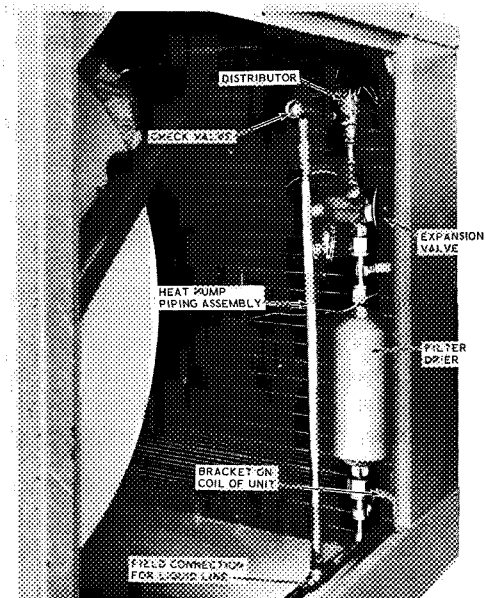

Fig. 5 — 40BA009 with Heat Pump Conversion Piping Installed
- Figure 5 shows the heat pump conversion piping filter-drier and expansion valve installed on the 40BA009 unit. To install, cut off the end of the side outlet tube of the distributor, being careful about leaving chips or burrs inside the tube. Position the check valve and tube assembly. Slide the check valve over the side outlet tube and “sweat” the joint. Use the expansion valve and filter-drier to locate the lower end of the tube assembly.